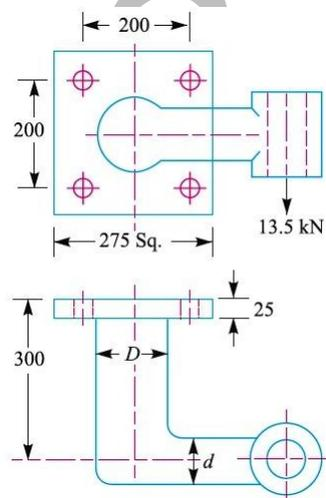

Figure.1
- 3 **Figure.1** shows a solid forged bracket to carry a vertical load of 13.5 kN applied through the centre of hole. The square flange is secured to the flat side of a vertical stanchion through four bolts. Estimate the tensile load on each top bolt and the maximum shearing force on each bolt, if the permissible stress is 65 MPa in shear. All dimensions are in mm. (13 M) (Nov 2017) BTL5